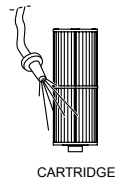

Figure 13.1e
5. Rinse the filters with a garden hose and a high-pressure nozzle, Figure 13.1e.